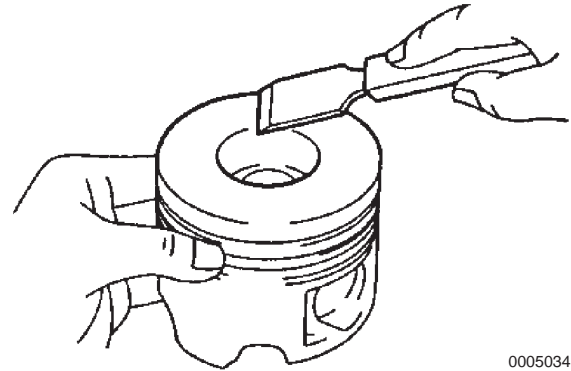

Figure 5-111
1. Clean the carbon deposits off the piston top using a scraper (**Figure 5-111**).